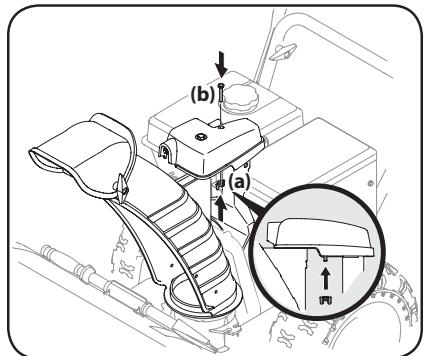

Figure 2-17
3. Finish securing chute control head to chute support bracket with wing nut (a) and hex screw (b) removed in Step 1. See Figure 2-17.